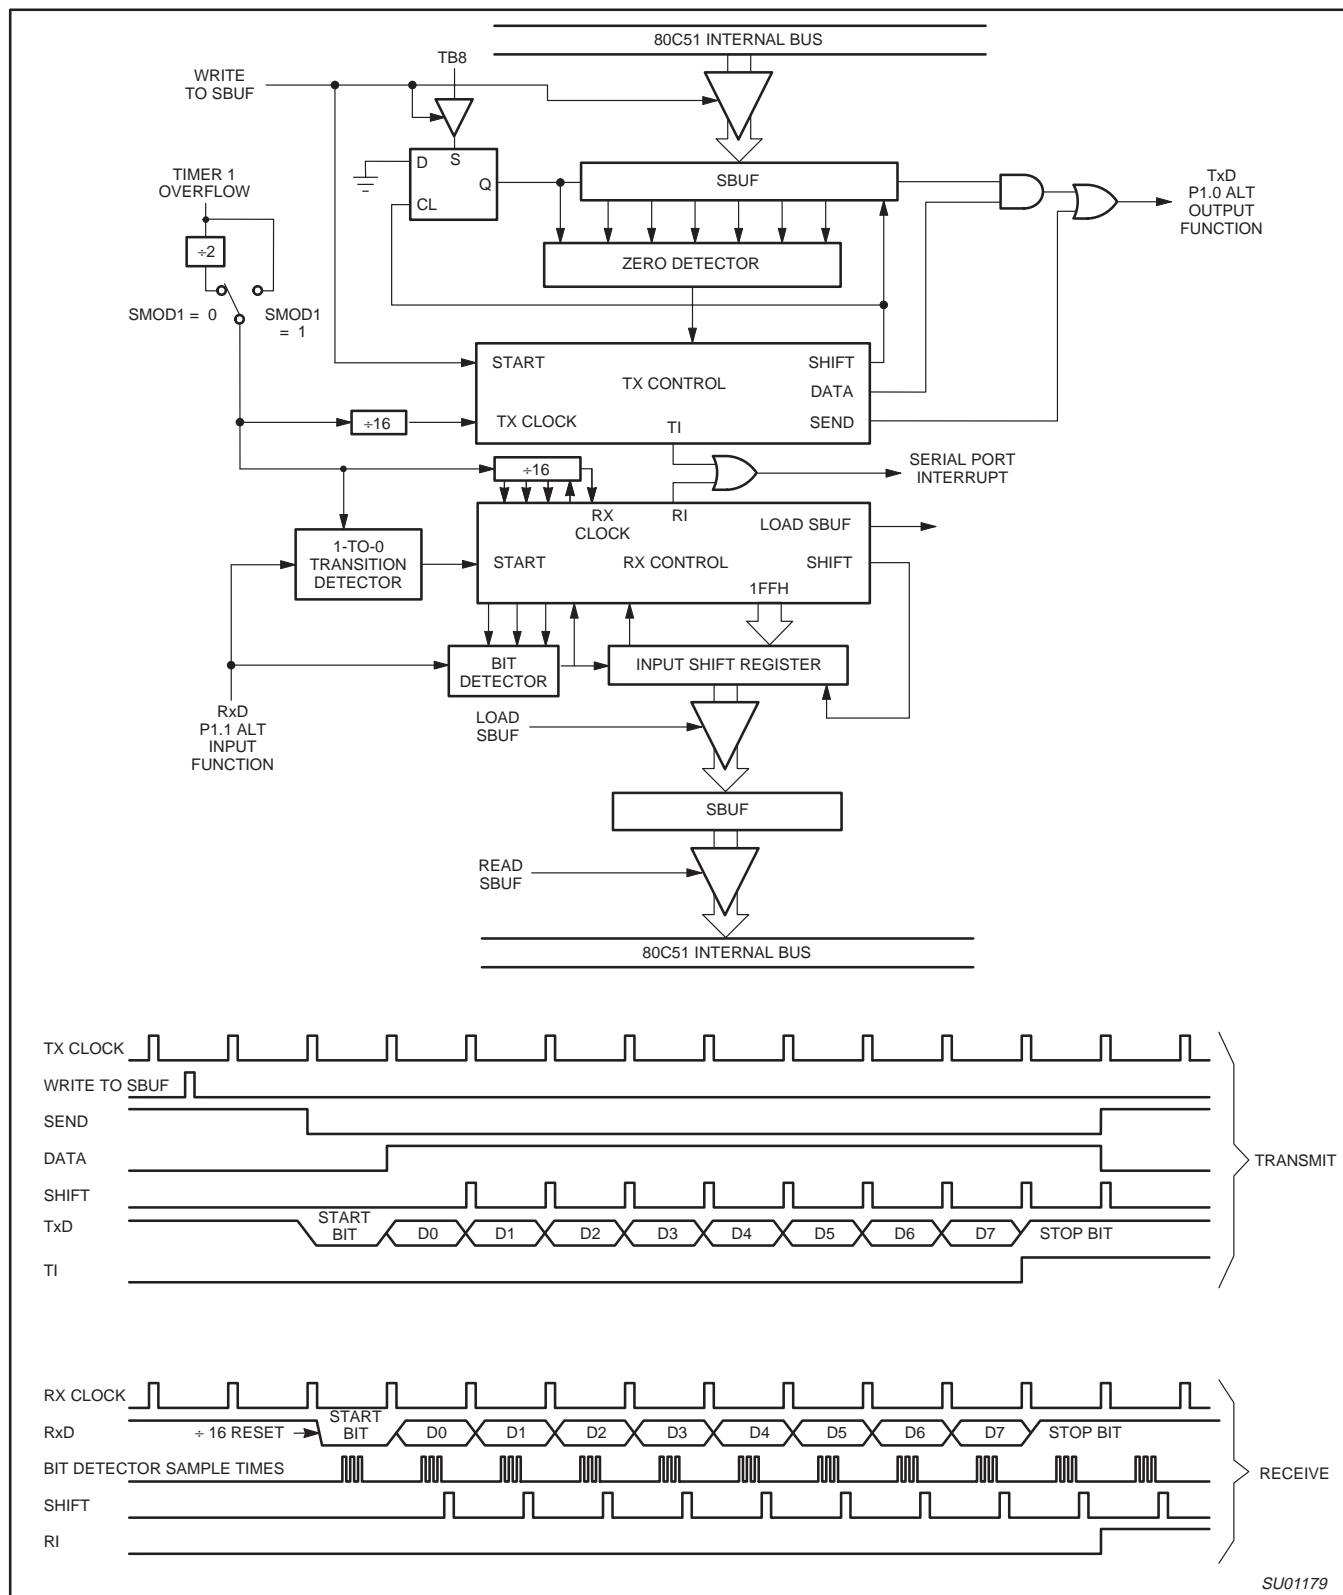

Figure 30. Serial Port Mode 1
Ten bits are transmitted (through TxD), or received (through RxD): a start bit (0), 8 data bits (LSB first), and a stop bit (1). On receive, the stop bit goes into RB8 in SCON. In the 87LPC764 the baud rate is determined by the Timer 1 overflow rate. Figure 30 shows a simplified functional diagram of the serial port in Mode 1, and associated timings for transmit receive.